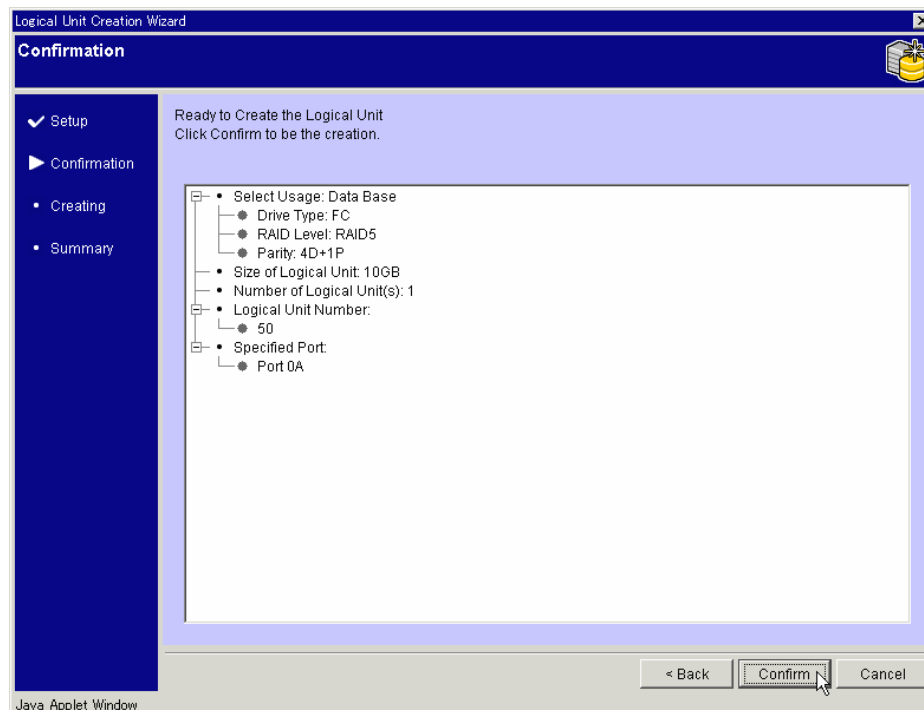

Figure 6.2 Logical Unit Creation Wizard - Confirmation
4. The specification contents display. See Figure 6.2. When the specification contents are no problem, click **Confirm**. If you want to modify the contents, click **Back**.